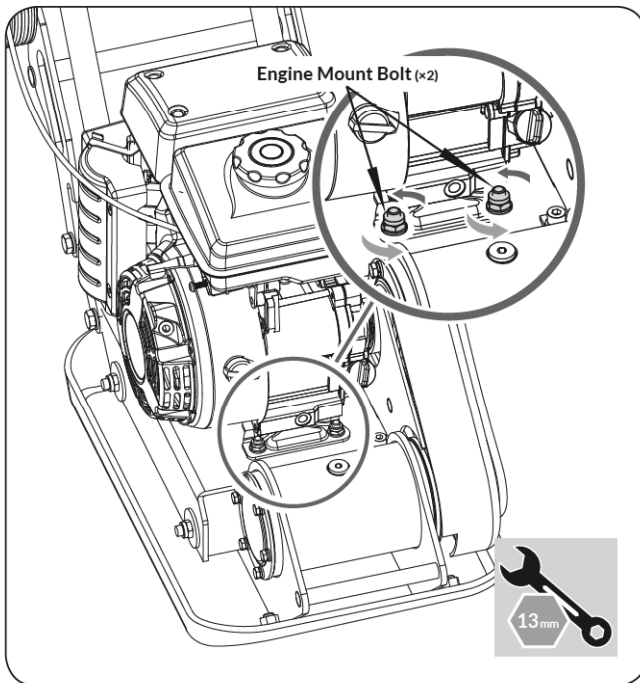
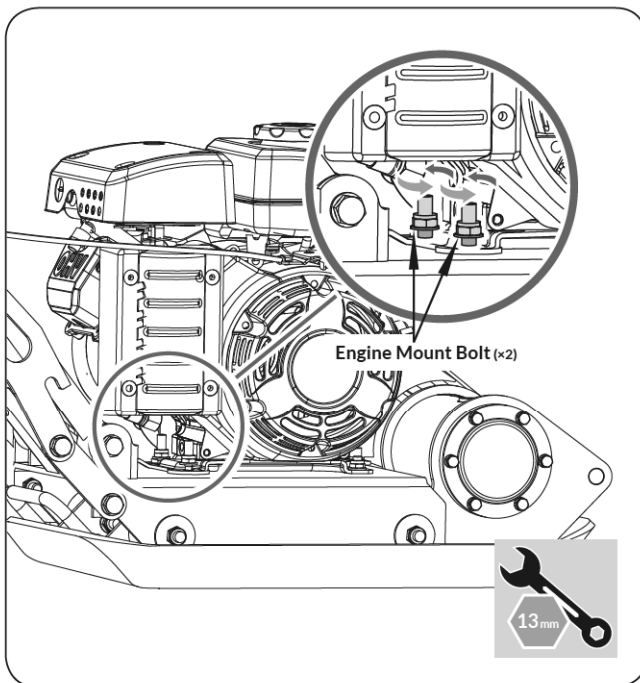

Figure 8a
Figure 8b
1. Loosen 4 engine mount bolts (do not remove) only enough to move the engine forward. (See **Figure 8a** & **Figure 8b**)